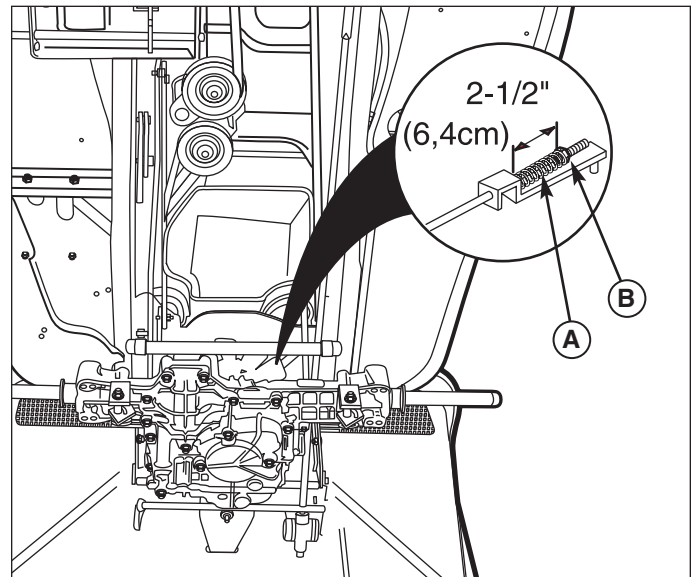

Figure 29. Brake Spring Adjustment
3. Locate the brake spring (A, Figure 29) and adjustment nut (B).
If the spring is not within this range, turn the adjustment nut (B, Figure 29) to compress or release the spring.